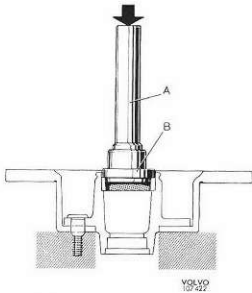
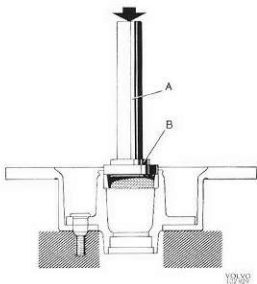

Fig. 7-24. Fitting inner bearing ring
Fig. 7-25. Fitting outer bearing ring
7. Press in the new bearing rings. In addition to using standard handle 1801, use drift 5005 (Fig. 7-24) for the inner ring, and drift 2724 (Fig. 7-25) for the outer bearing ring.